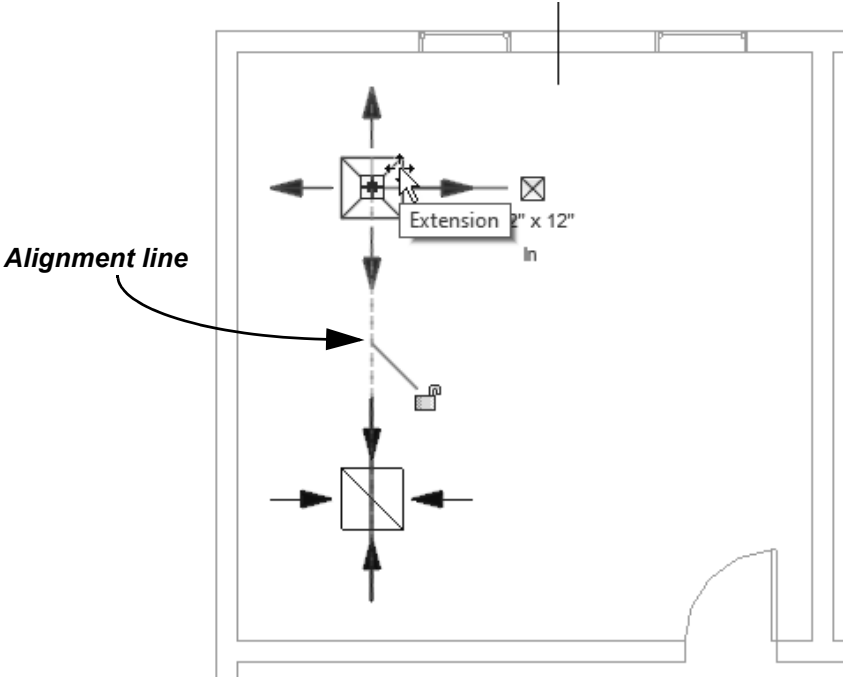

Figure 2-50
- 1. Still in the Mechanical>HVAC>Floor Plans>1 - Mech view, select the supply air terminal, then click and drag it to a new location using the alignment line referencing the return air terminal, as shown in Figure 2-50.